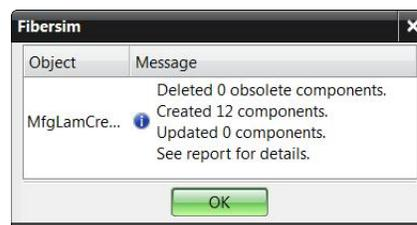

Figure 13–11
9. Click  and view the report as shown in Figure 13–12.